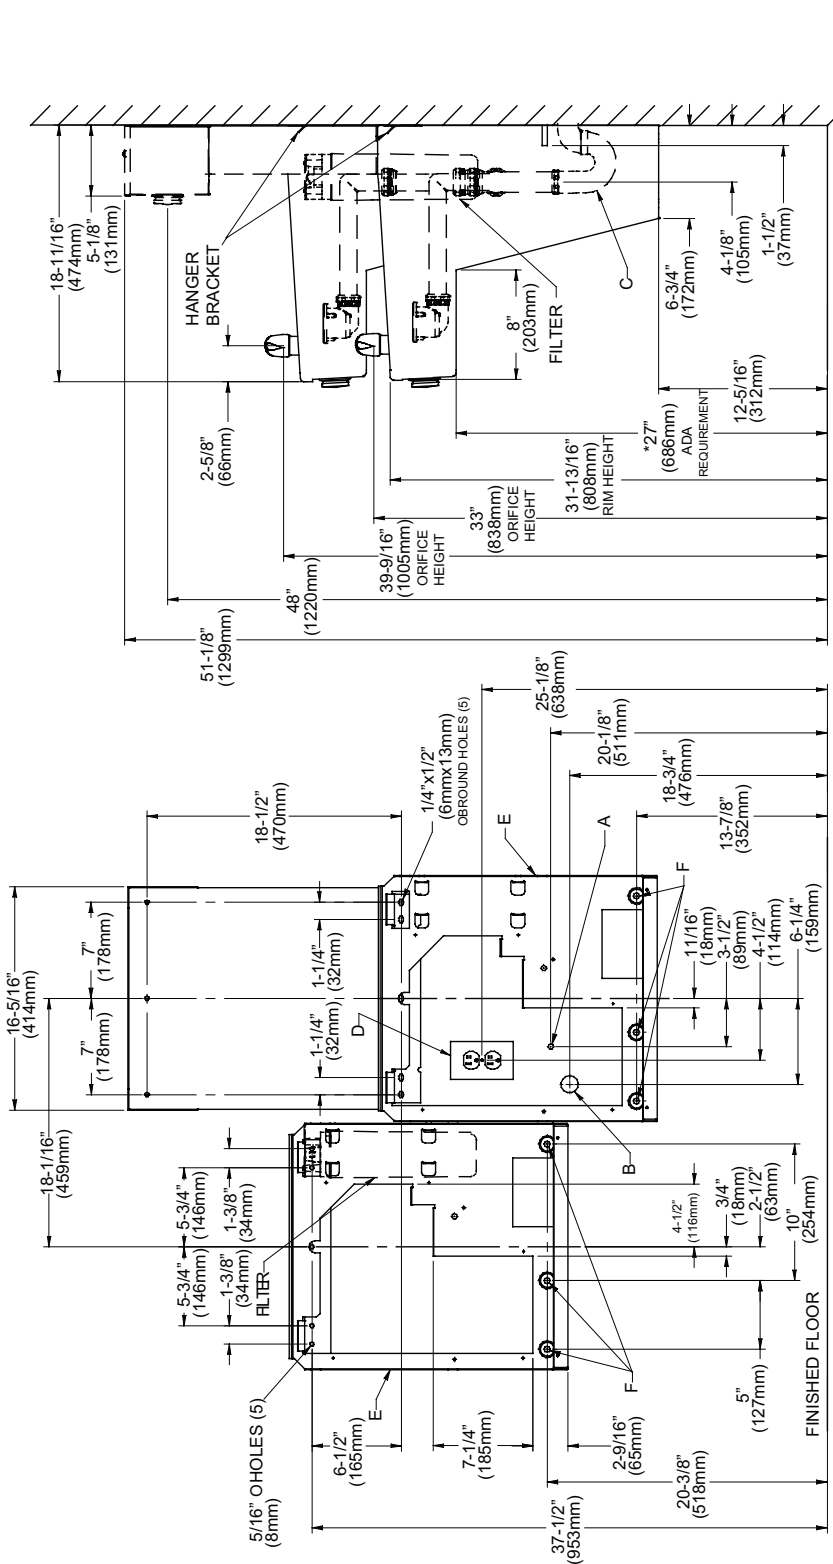

FIG. 2
- 1) Remove hanger bracket fastened to back of cooler by removing one (1) screw.
- 2) Mount the hanger bracket and trap as shown in Figure 2 or 3.